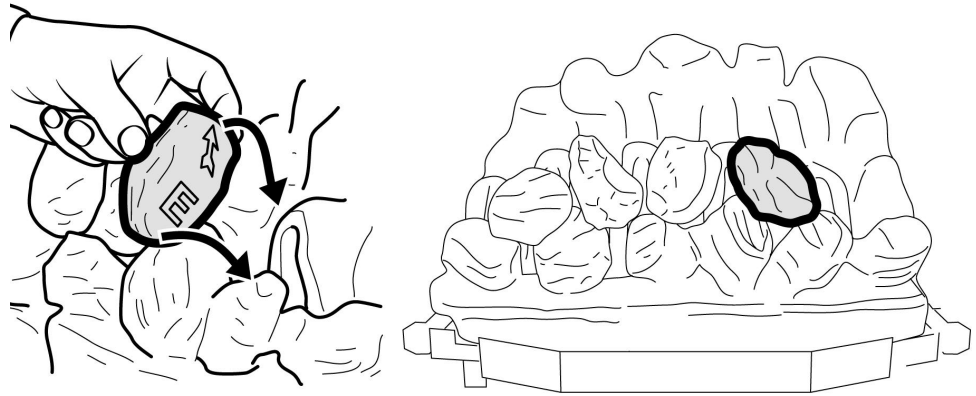

Figure 14. Second row "Coal E"
7. Hold coal 'E' upright with the arrow pointing to the top. Locate coal 'E' as shown in figure 14.